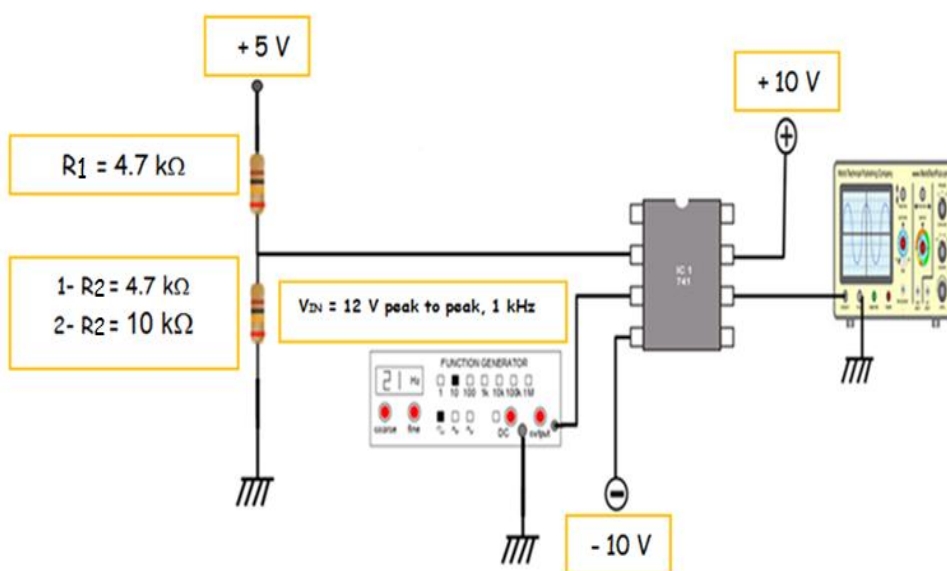

Figure3. The connection of the simple comparator circuit with different value of R2.
1. First, a simple comparator circuit was designed and constructed as shown in figure 3 to investigate the characteristics of a voltage comparator.